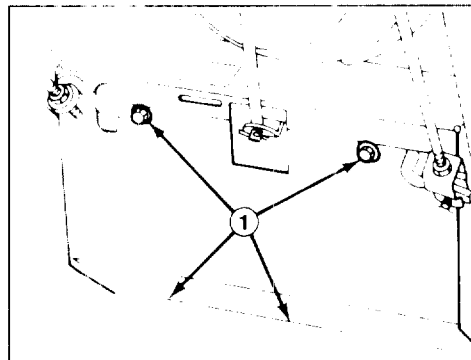

Figure 20
3. Tip snowthrower forward onto auger housing and block it so it cannot fall. Now, remove four screws holding bottom cover in place and remove cover (Fig. 20).